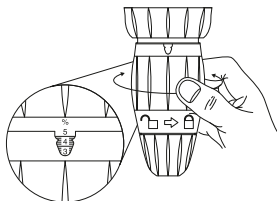

Fig.11
3. Screw or unscrew the adjusting nut in order to line up the 2 sides of the eye - let is aligned with the desired ratio on the scale (Fig. 11);